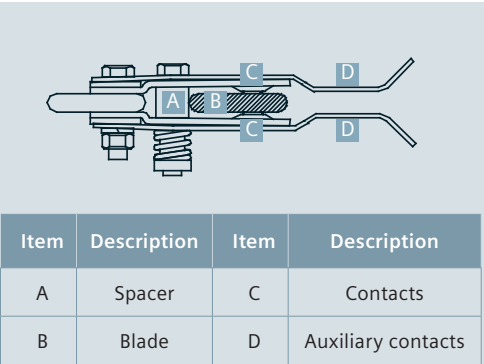

Figure 10: Blade
- a) Close the switch fully and lock the operating handle into the CLOSE position of the lock segment. Bounce the blade toward the OPEN position. The blade should remain tightly against the stop. If the blade does not remain tightly against the stop, re-adjust the handle/lock segment assembly per the Operating handle adjustment procedure presented on page 13. Refer to Figure 10: Blade.